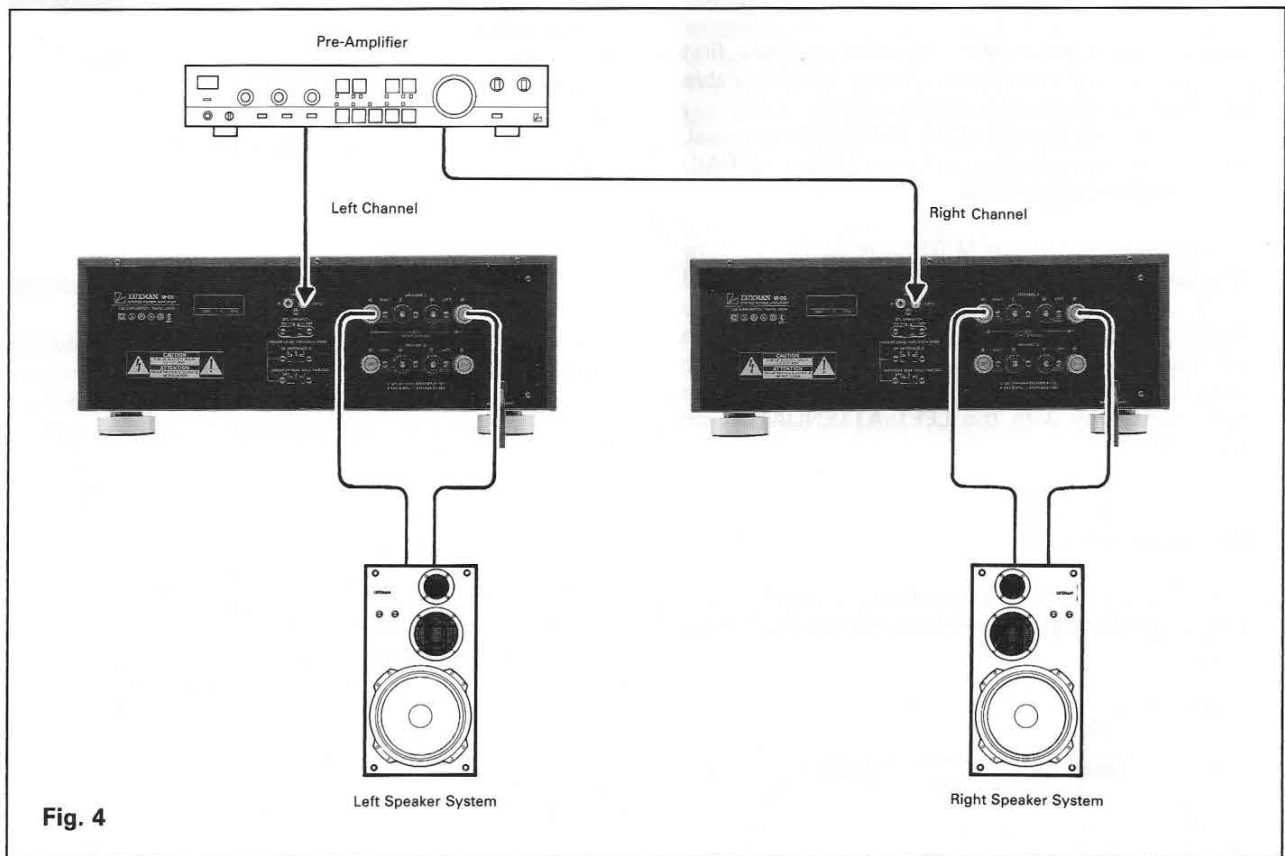

Fig. 4
BTL (Balanced Transformerless) Connection and Operation (See Figure 4)
1. Connect the right channel output from your pre-amplifier to the L(BTL) INPUT terminal of the M-03 as shown in the Figure 4.
3. Set the BTL OPERATION switch on both M-03s to the ON position. If the M-03s are connected as shown in the Figure 4 the maximum output power of each amplifier will become about double the power in the normal stereo mode.